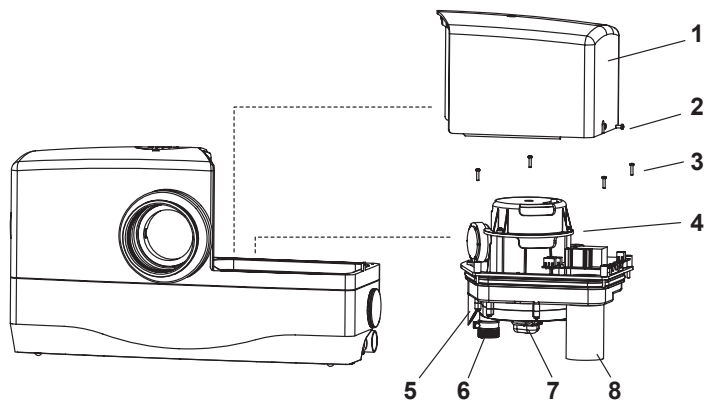

Figure 9
- / To take out the pumping unit for service, remove securing screw (2) and lift off cover (1).
- / Remove securing screws (3) and lift pumping unit (4) from tank (see fig. 9).
If rotating the rotorshaft fails to clear the blockage then the complete motor/pumping unit must be removed from the tank for inspection and the blockage cleared by hand (see page 44, fig. 9).